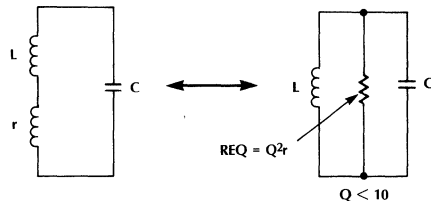

Figure 5.
1. In Figure 5, it is seen that an RLC circuit with series loss can be represented by a circuit with parallel loss (resistance). This applies when the circuit Q is high ( $>10$ ).